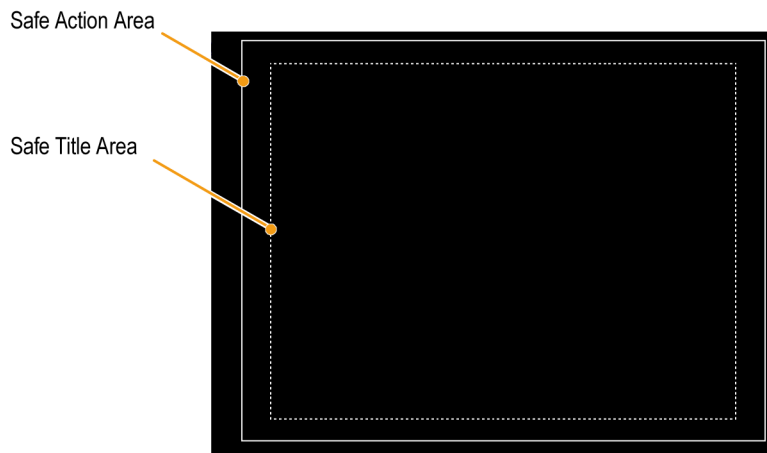

Figure 74: Safe Action and Safe Title areas
- The Safe Action Area denotes the maximum image area within which all significant action should be contained; the Safe Title Area denotes the maximum image area within which all significant titles should be contained. (See Figure 74.)